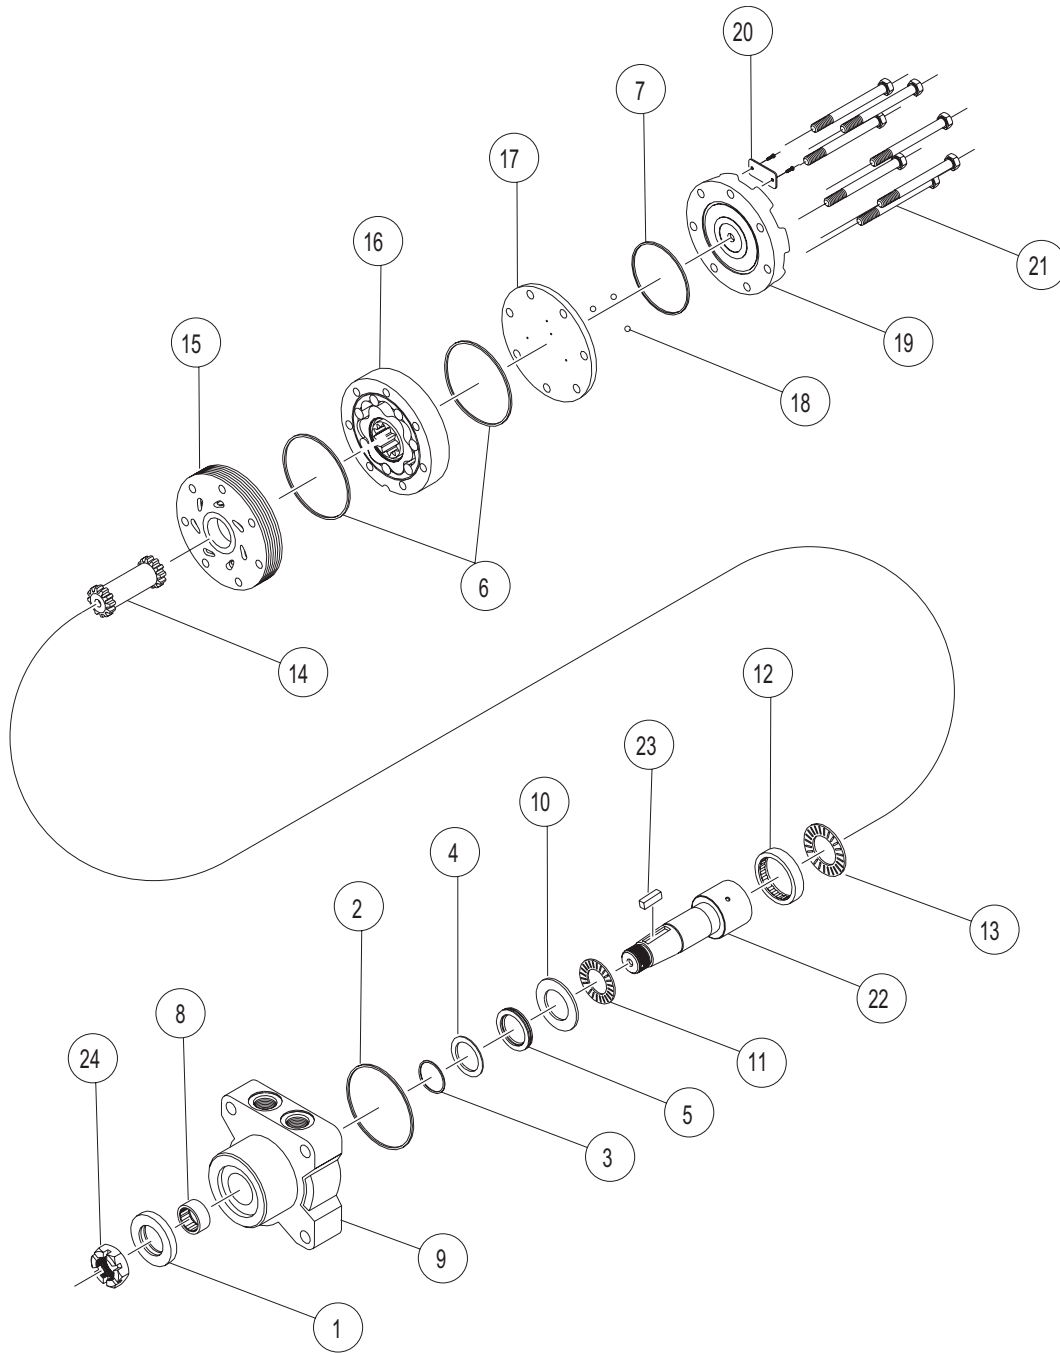

FIGURE 1
- A)** Remove all shaft components from the shaft, (22), (i.e., keys, wire rings, nuts). To aid in reassembly of the motor, make a “V” shaped set of lines from the endcover to the housing using either paint or a marker. With the shaft facing down, secure the motor in a vise by clamping onto the housing, (9). Loosen and remove the seven bolts, (21), holding the motor assembly together. Remove the endcover, (19), from the motor.
- B)** Remove the balance plate, (17), rotor set, (16), and the manifold, (15), from the motor. Remove all seals from the components and discard. (Caution - when removing the balance plate, do not allow the three check balls, (18), to fall out of the plate.) (Caution - do not allow the rolls to drop out of the rotor set assembly when removing it from the motor.) Remove drive link, (14), from the motor and lay aside. Remove the thrust bearing, (13), from the housing and lay aside. From the front of the housing, gently tap the shaft, (22), upward and remove through the rear of the housing.
- C)** Using a slide and hammer type bearing puller, (see Figure 1), remove the rear housing bearing, (12), from the housing. Remove the thrust bearing, (11), and lay aside, remove the thrust washer, (10), and lay aside. Remove the shaft seal, (5), and discard, remove the back-up seal, (4), and discard, remove the metal shim, (3), and discard. Turn the housing over and remove the dust seal (1).